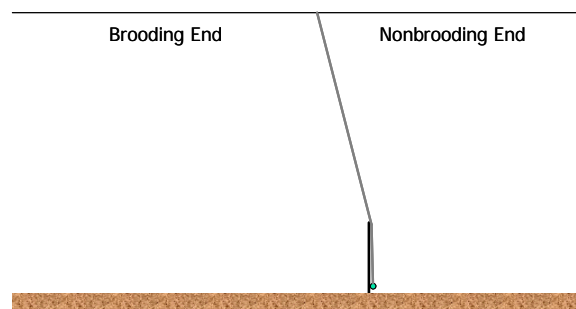

Figure 13. Bird board shifted towards nonbrooding end.
- 2) Make sure that the bird boards are positioned a foot or so towards the nonbrooding end of the house (Figure 13). This will cause the brooding curtain to rest firmly against the bird board minimizing the likelihood of air leakage from the nonbrooding end.